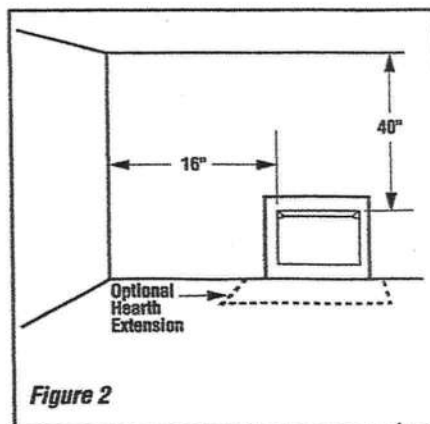

Figure 2
Ensure the minimum clearances shown in *Figures 2 through 6* are maintained. Left and right clearances are determined when facing the front of the firebox.
**Sidewall clearances:** The sides of the firebox opening must be at least 16" from any combustible wall (*Figure 2*).
**Ceiling clearance:** The ceiling must be at least 40" from the top of the firebox opening (*Figure 2*).
**Step 1.** Frame these appliances as illustrated in **Figures 9 through 11**. All framing details must allow for a minimum clearance to combustible framing members as shown in **Figures 2 through 6**. Also refer to appliance specifications on **Page 10**. Headers may be in direct contact with the appliance top spacers but must not be supported by them or notched to fit around them. All construction above the appliance must be self supporting, **DO NOT USE THE APPLIANCE FOR STRUCTURAL SUPPORT**.